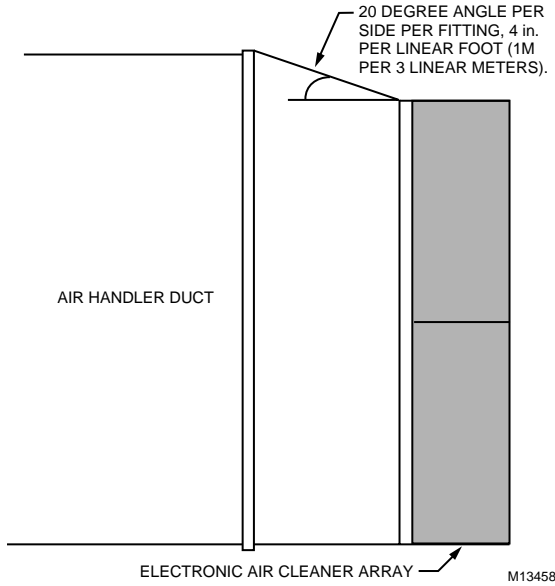

Fig. 4. Changing duct size gradually to minimize turbulence.
Use transitions when the duct opening is a different size than the air cleaner array. Gradual transitions reduce air turbulence and increase efficiency. See Fig. 4. Limit the duct change to no more than 20 degrees or four inches per linear foot (one meter per three linear meters).
- Install a transition to the air handler duct if the opening is different than the opening of the air cleaner array (see Fig. 4).